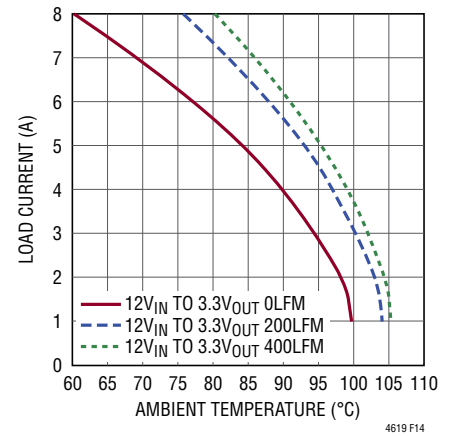

Figure 14. 12V_{IN} to 3.3V_{OUT} without Heat Sink
1.5V power loss curve at 5A, and the 1.35 multiplying factor at 120°C ambient. If the 95°C ambient temperature is subtracted from the 120°C junction temperature, then the difference of 25°C divided by 1.83W equals a 13.6°C/W Θ_{JA} thermal resistance. Table 2 specifies a 13.4°C/W value which is pretty close. The airflow graphs are more accurate due to the fact that the ambient temperature environment is controlled better with airflow. As an example in Figure 14, the load current is derated to 5A at ~95°C with 400LFM of airflow and the power loss for the 12V to 3.3V at 5A output is ~2.5W. The 2.5W loss is calculated with the ~1.85W room temperature loss from the 12V to 3.3V power loss curve at 5A, and the 1.35 multiplying factor at 120°C ambient. If the 95°C ambient temperature is subtracted from the 120°C junction temperature, then the difference of 25°C divided by 2.5W equals a 10°C/W Θ_{JA} thermal resistance. Table 2 specifies a 9.7°C/W value which is pretty close. Tables 2 and 3 provide equivalent thermal resistances for 1.5V and 3.3V outputs with and without airflow and heat sinking.
| Figures 14, 16 | 12, 24 | Figure 9 | 0 | none | 13.4 |
| Figures 14, 16 | 12, 24 | Figure 9 | 200 | none | 11.2 |
| Figures 14, 16 | 12, 24 | Figure 9 | 400 | none | 9.7 |